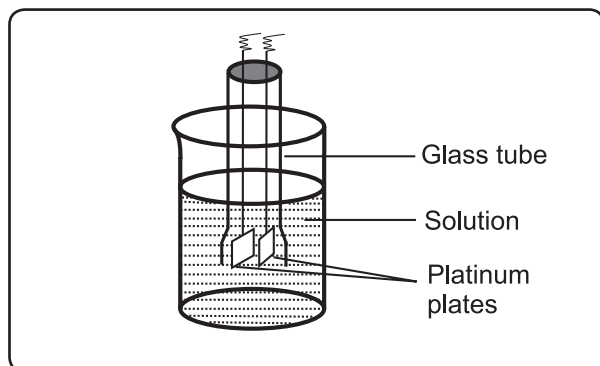

Fig. 5.2 : Conductivity cell
**Conductivity Cell :** The conductivity cell consists of a glass tube with two platinum plates coated with a thin layer of finely divided platinum black. This is achieved by the electrolysis of solution of chloroplatinic acid. The cell is dipped in a solution whose resistance is to be measured as shown in Fig. 5.2.